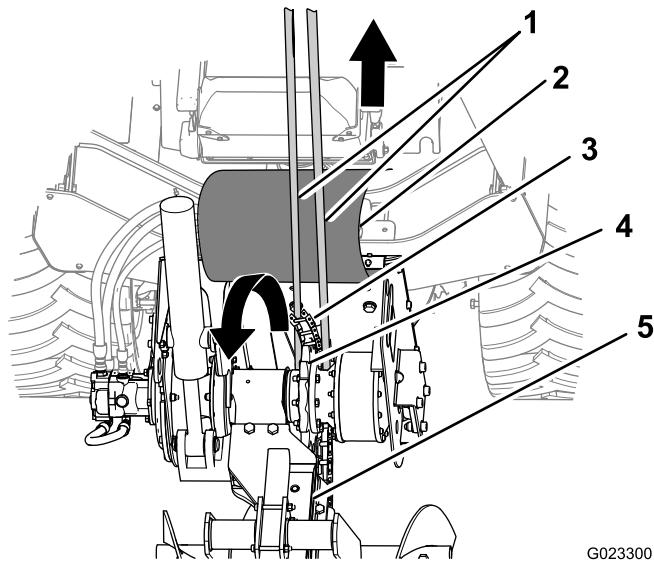

Figure 45
1. Route the ends of the lifting strap forward of the sprocket hub, on either side of the drive sprocket, and up past the dirt deflector (Figure 45).
2. Connect the ends of the lifting strap to the lifting equipment, and raise the end of the chain until the drive pins engage the drive sprocket (Figure 45).